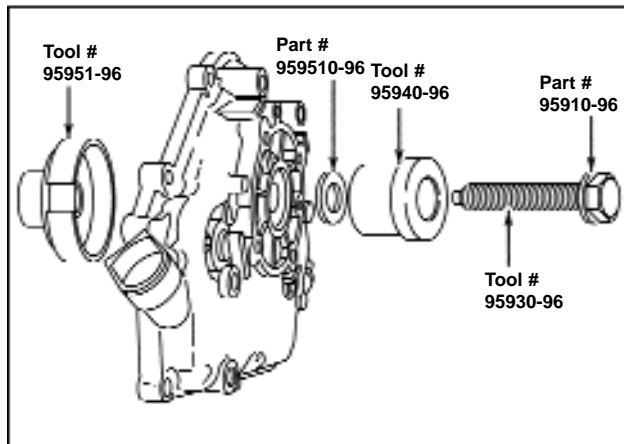

Figure 139 - Removing Bearing - PTO Side
4. Place open side of Tool #95951-96, Support against ball bearing with notch of support over two (2) ribs on crankcase cover, Figure 139.
6. Continue tightening screw until ball bearing is removed, Figure 139.